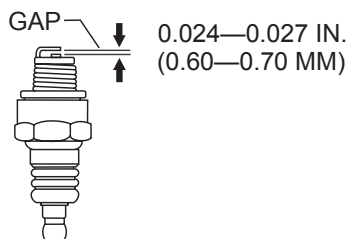

Figure 32. Spark Plug Gap Adjustment
5. Measure the spark plug electrode gap (Figure 32) with a wire-type feeler gauge. If needed, adjust the gap to 0.024–0.027 in. (0.6–0.7 mm) by carefully bending the side electrode.